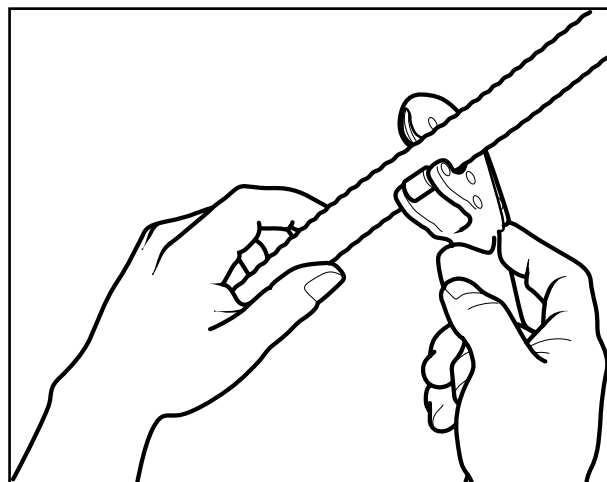

Figure: 4-2
1. **CUT-TO-LENGTH:** Determine proper length. Cut through plastic jacket and stainless tube using a tube cutter with a sharp wheel. Cut must be centered between two corrugations. Use full circular strokes in one direction and tighten roller pressure slightly (a quarter turn) after each revolution. **DO NOT OVERTIGHTEN ROLLER**, which may flatten tube. Figure: 4-2